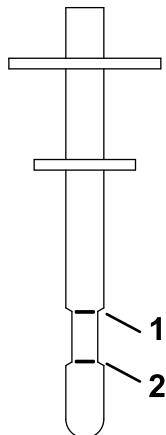

Figure 71
- Place the dipstick into the filler neck, remove it, and check the fluid level (Figure 71).